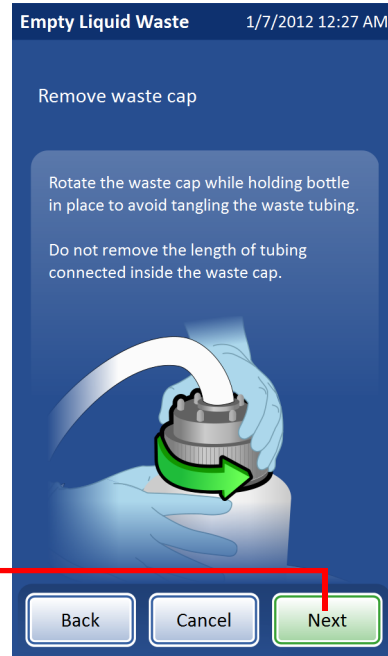

Figure 8-14 Opening/closing the waste bottle
5. **Cap removal** — Open the waste bottle cap by rotating the waste cap while holding the bottle in place to avoid tangling the waste tubing. See Figure 8-14.